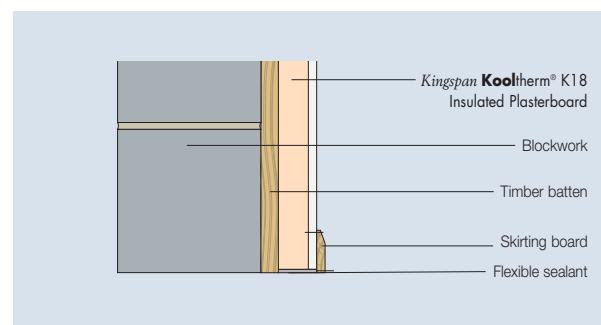

Figure 8 – Packer and skirting detail
- The packer should be replaced with a flexible urethane / acoustic sealant prior to skirting being fitted (see Figure 8).